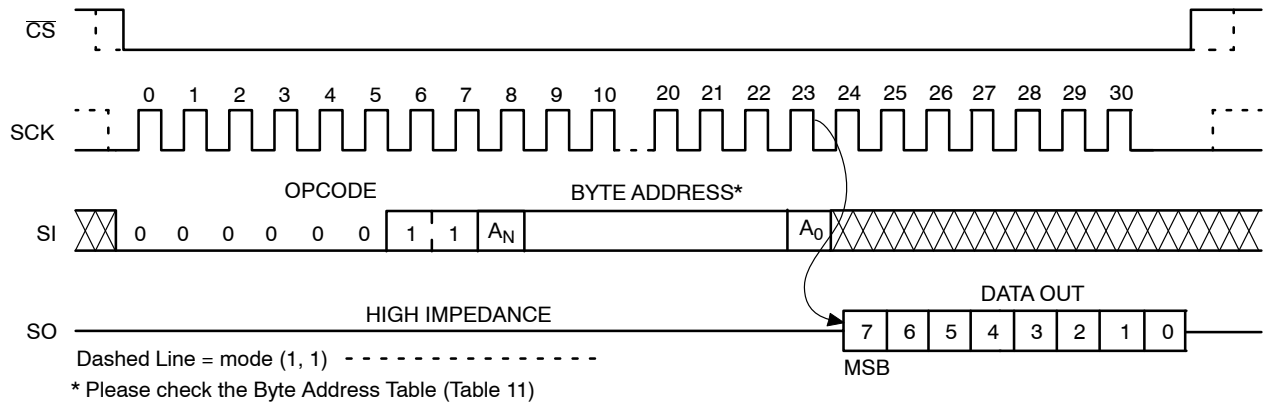

Figure 9. READ Timing
After receiving the last address bit, the CAV25128 will respond by shifting out data on the SO pin (as shown in Figure 9). Sequentially stored data can be read out by simply continuing to run the clock. The internal address pointer is automatically incremented to the next higher address as data is shifted out. After reaching the highest memory address, the address counter “rolls over” to the lowest memory address, and the read cycle can be continued indefinitely. The read operation is terminated by taking \overline{CS} high.
Reading the additional 64-byte Identification Page (IP) is achieved using the same Read command sequence as used for Read from main memory array (Figure 9). **The IPL bit from the Status Register must be set (IPL = 1) before attempting to read from the IP.** The [A5:A0] are the address significant bits that point to the data byte shifted out on the SO pin. If the \overline{CS} continues to be held low, the internal